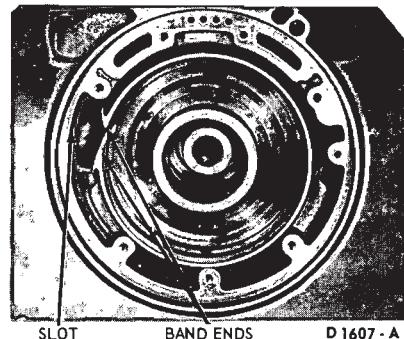

FIG. 26—Removing or Installing Band
10. Rotate the band 90 degrees counterclockwise to align the ends with the slot in the case (Fig. 26). Slide the band off the reverse-high clutch drum.